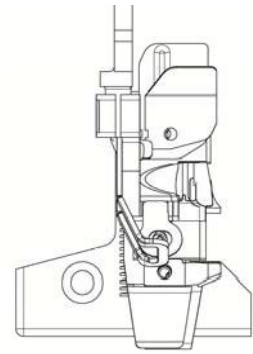

Fig.1
(2) Before operating the machine
- Before starting the machine, make sure that the presser foot is positioned correctly (turn the machine pulley slowly by hand to see if the needle point is centered in the needle drop hole on the presser) (Fig.1)